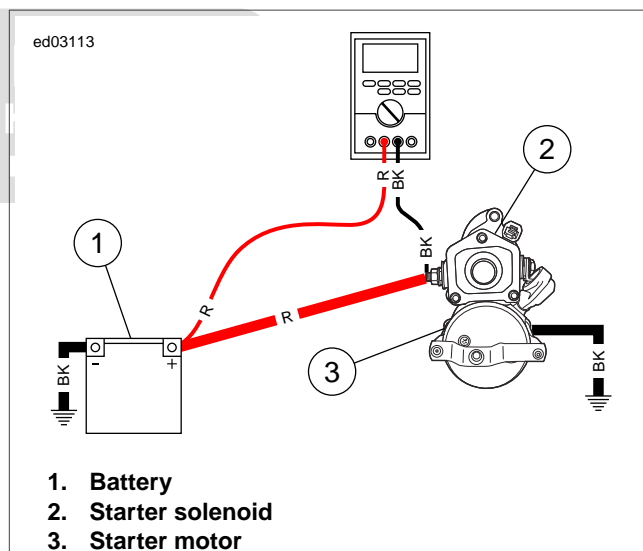

Figure 1-24. To Starter Solenoid Battery Terminal
3. See Figure 1-24. Move the black meter lead to the battery side post on the starter solenoid. Crank the starter.